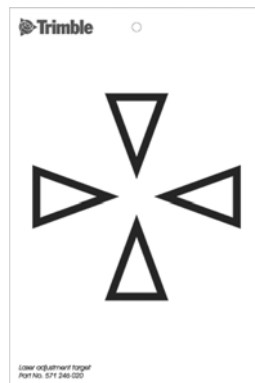

Figure 4.4 Adjustment target for Trimble S7 Total Station
3. If the red laser spot lies outside the cross-hairs, adjust the direction of the beam until it matches the cross-hairs, see Figure 4.4